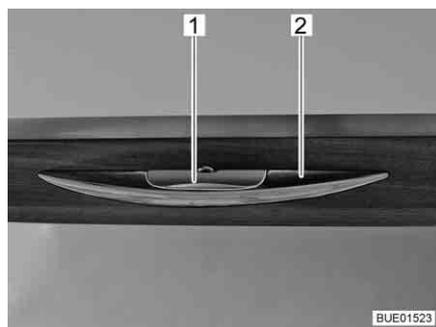

Fig. 55 Furniture flap with release handle
- Press the release handle (Fig. 55,1) and hold it down.
- Pull the handle (Fig. 55,2) until the furniture flap is open.